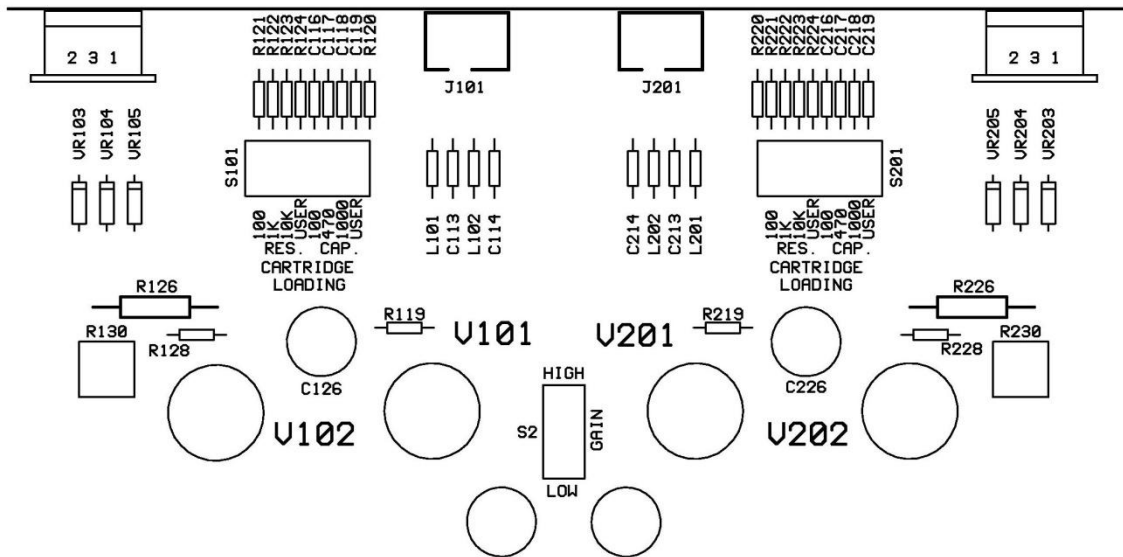

Figure 1
**Figure 1** depicts the locations of the VK-P80 internal configuration switches. These include: